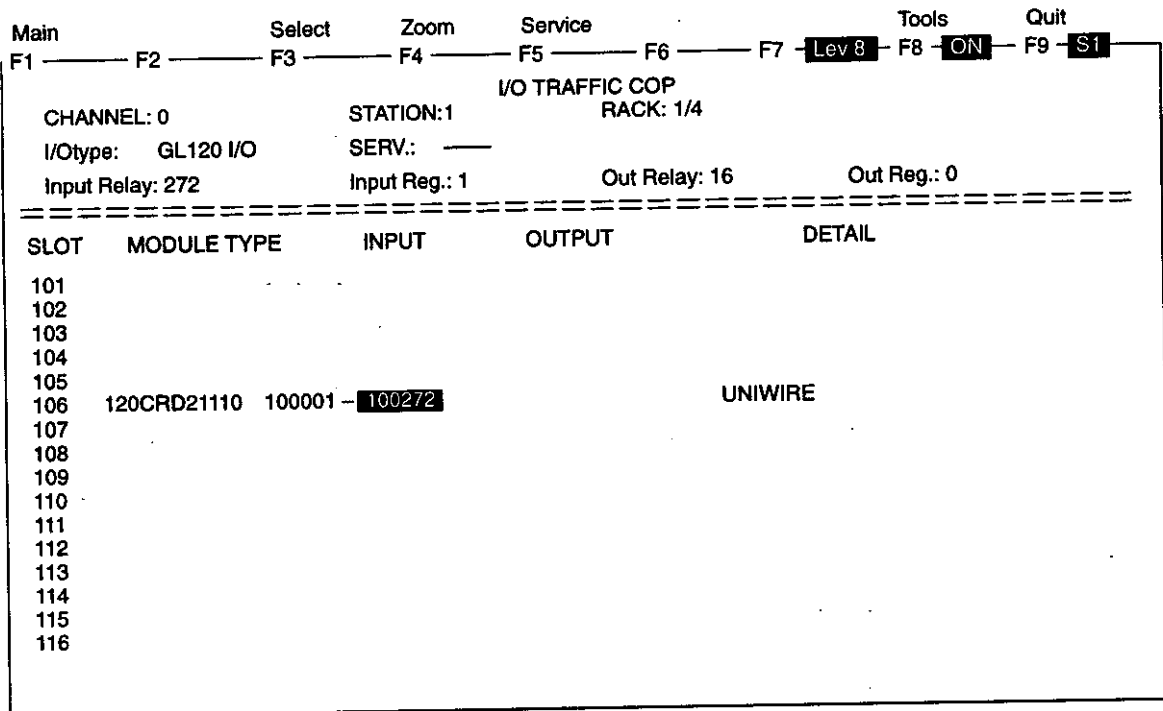

Figure 4.7 Reference Number of Last Input Relay
- g) The last number is automatically entered when the leading input number is entered. There are 272 points available for allocation so only enter the necessary number. Points are allocated 16 at a time, so the last number will be 100000 plus a multiple of 16 (16, 32, 48...). Allocate the 16 points for system use at this time. (*Figure 4.7*)